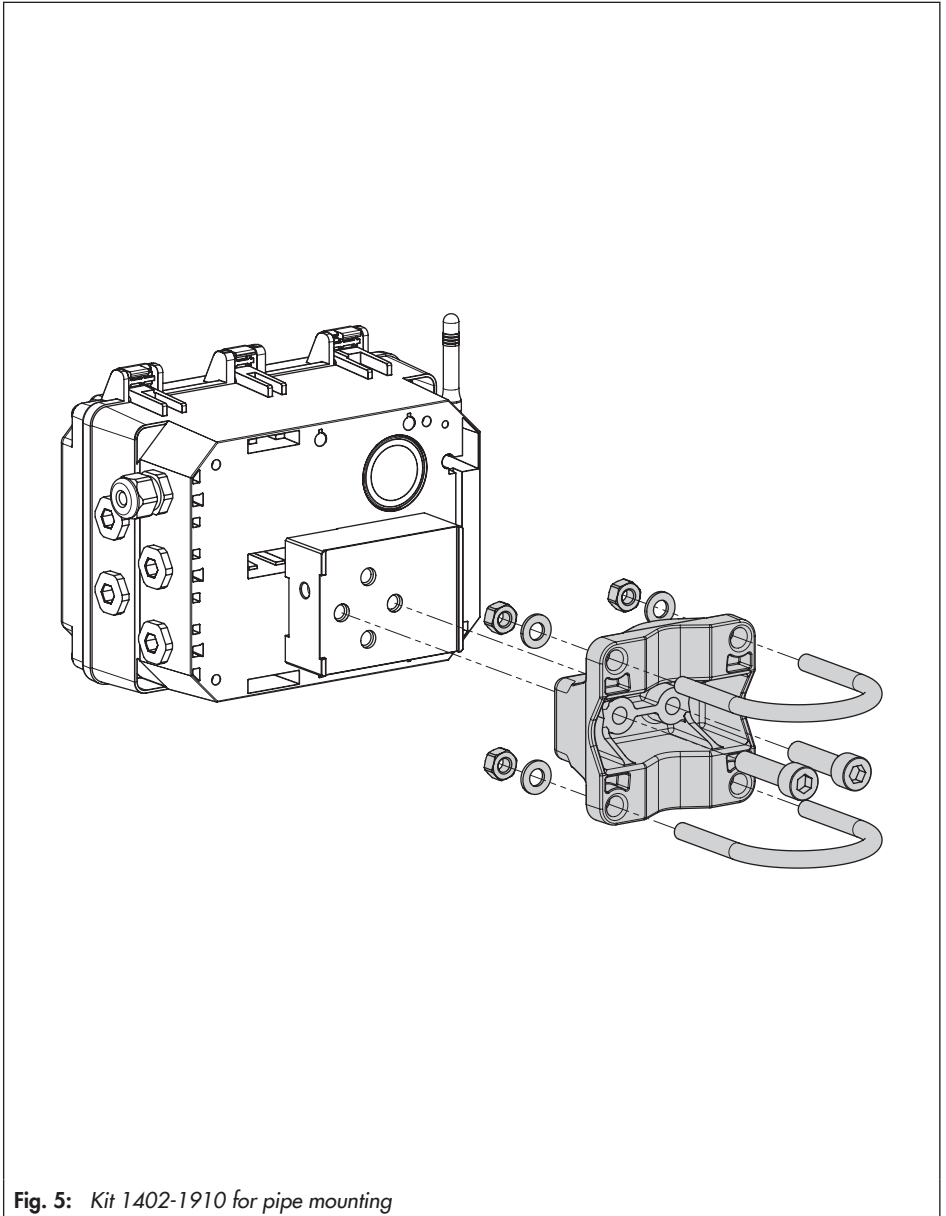

Fig. 5: Kit 1402-1910 for pipe mounting
- Kit 1402-1910 for pipe mounting as accessories (see section 3.3 and Fig. 5)